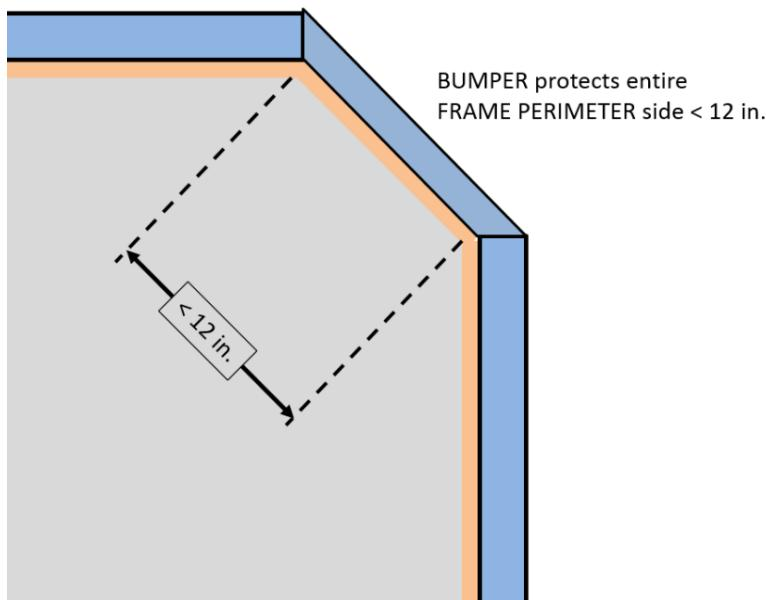

Figure 10-3 BUMPER around full side/corner.
**R24.** ROBOTS are required to use BUMPERS to protect all outside corners of the FRAME PERIMETER. For adequate protection, at least 6 in. (~16 cm) of BUMPER must be placed on each side of each outside corner (see Figure 8-2) and must extend to within  $\frac{1}{4}$  in. (~6 mm) of the FRAME PERIMETER corner. If a FRAME PERIMETER side is shorter than 12 in. (~31 cm), that entire side must be protected by BUMPER (see Figure 10-3). A round or circular FRAME PERIMETER, or segment of the FRAME PERIMETER, is considered to have an infinite number of corners, therefore the entire frame or frame segment must be completely protected by BUMPER(S).